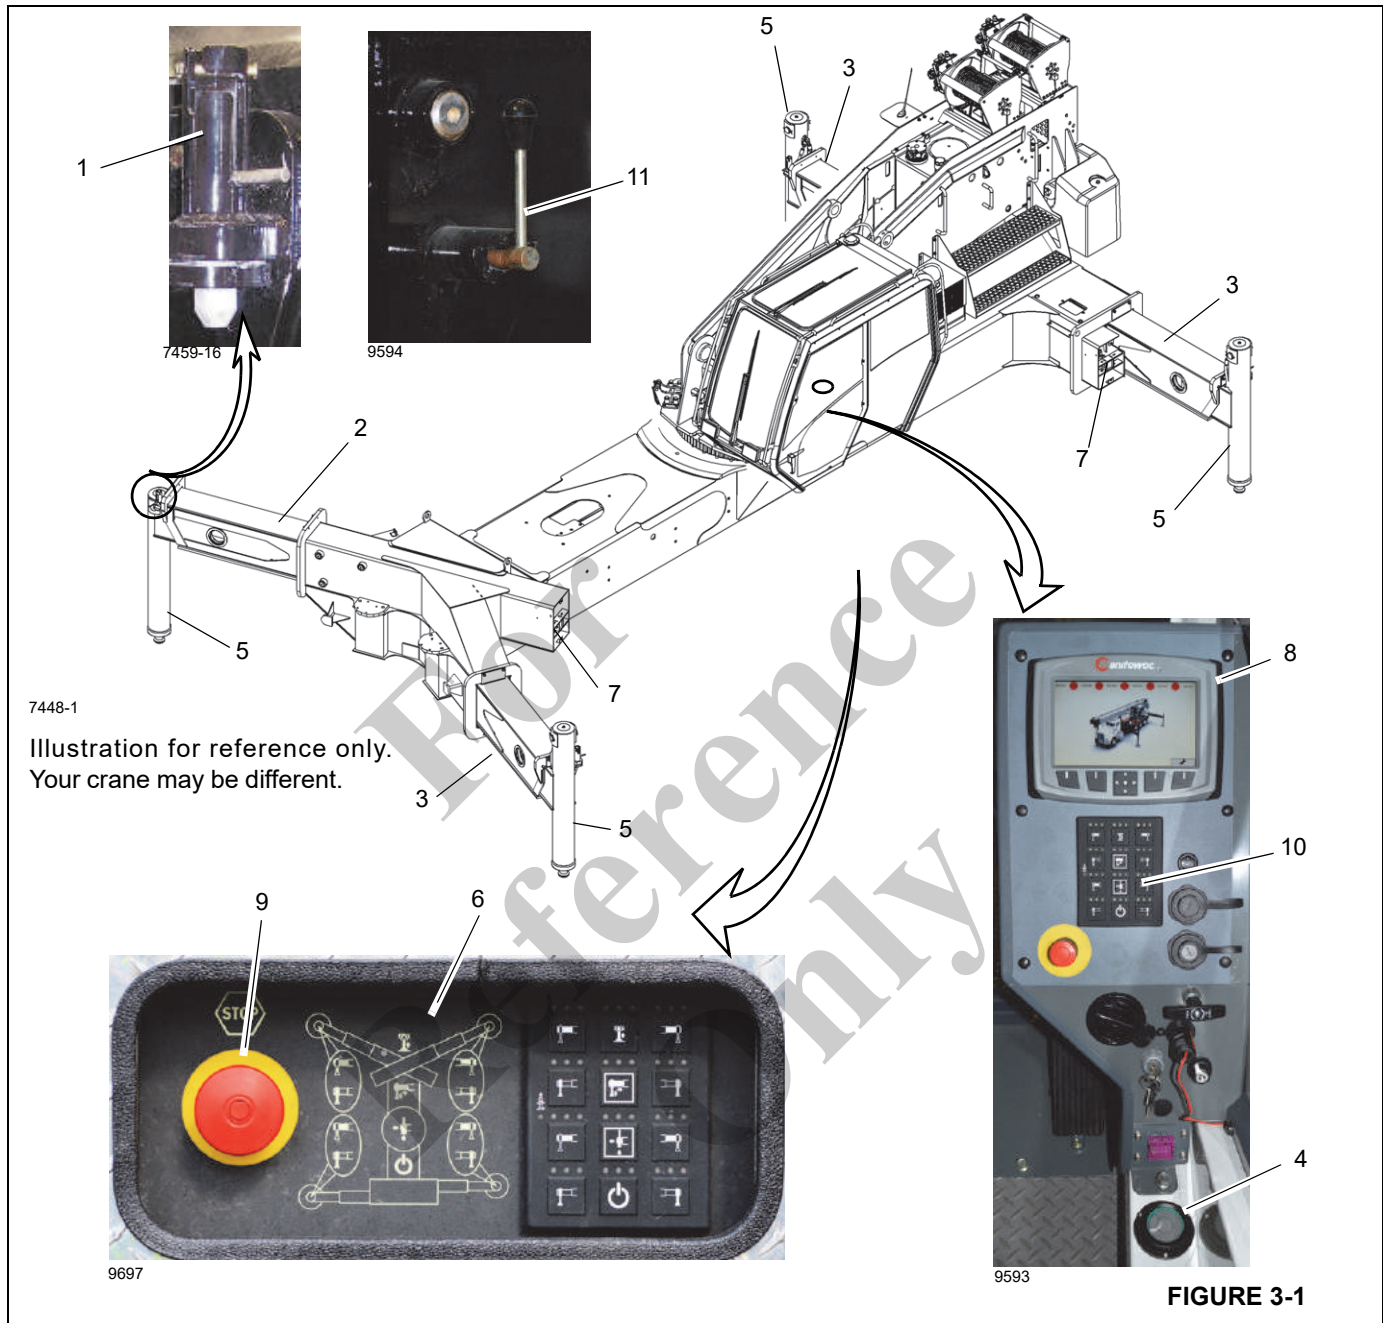
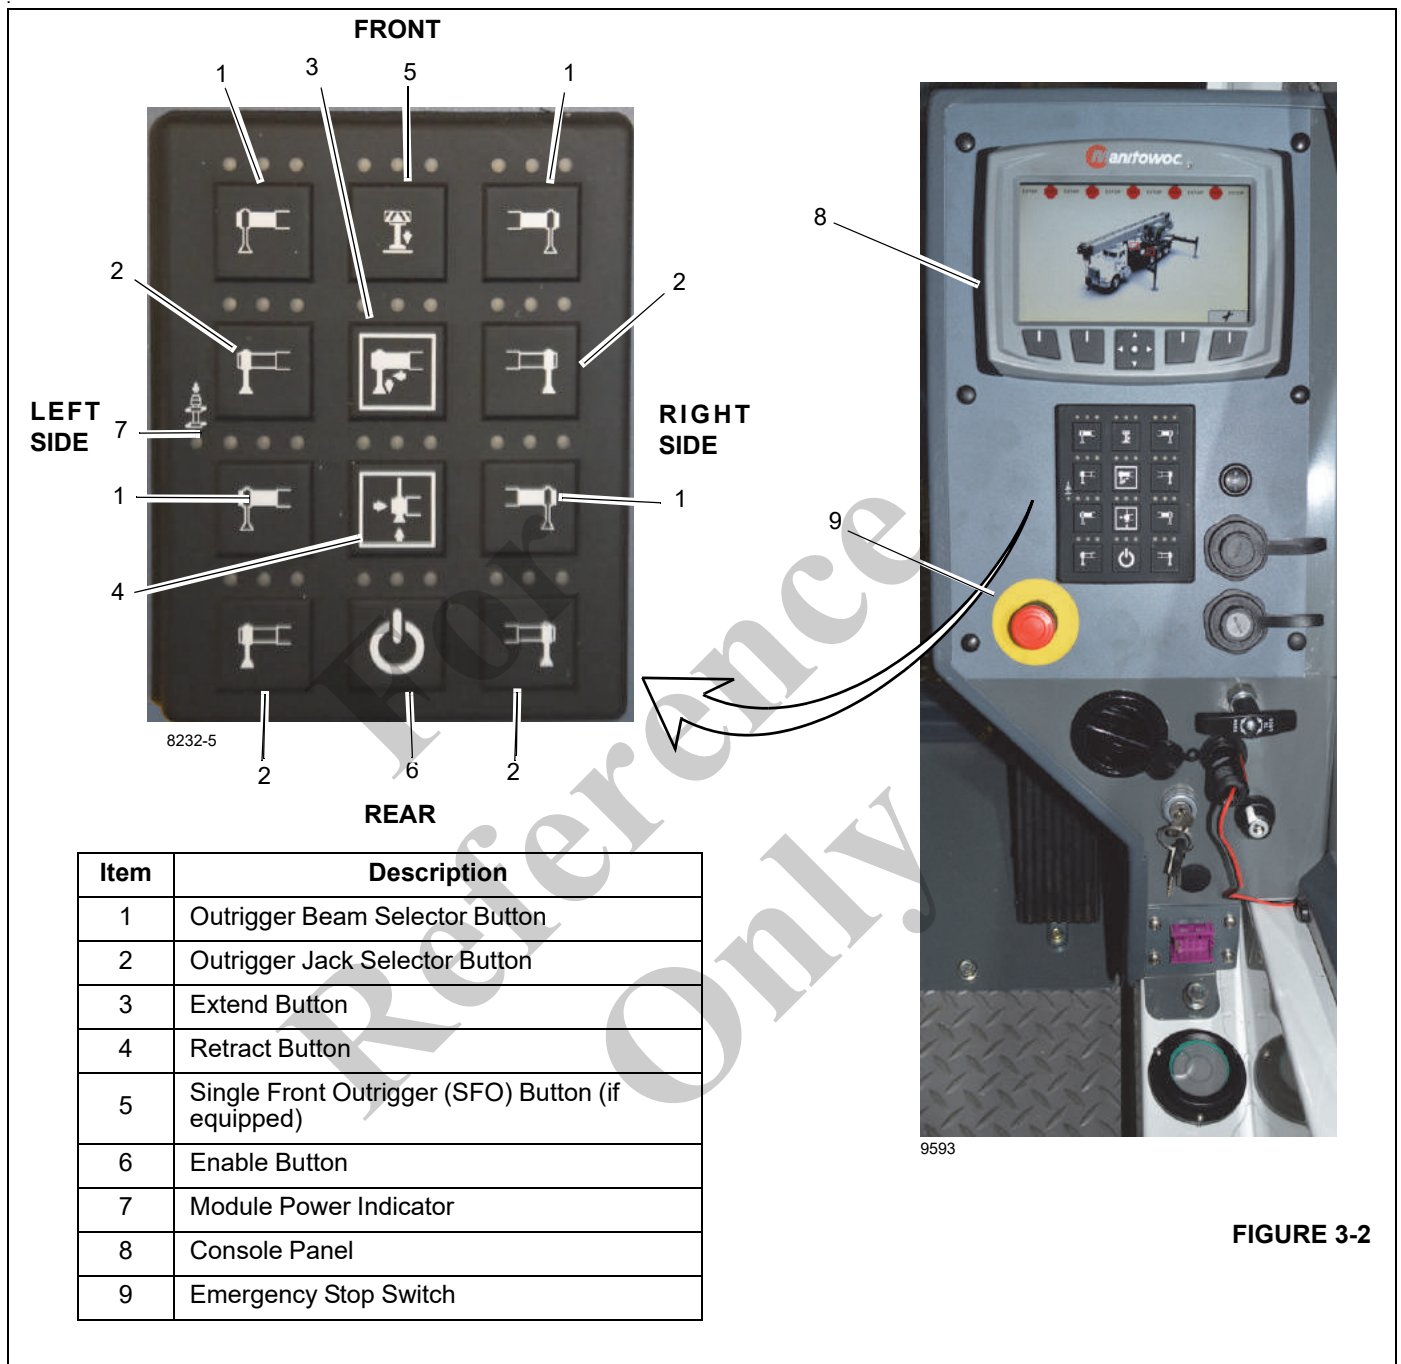
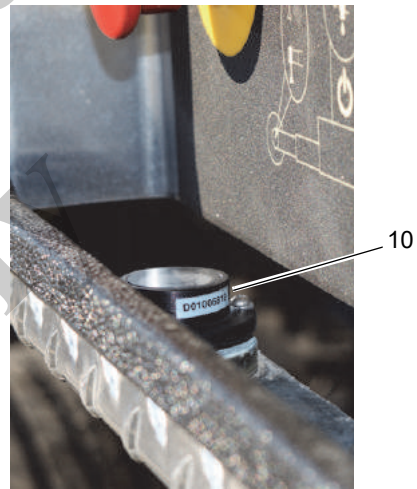

FIGURE 3-1
FIGURE 3-2
FIGURE 3-3
- The lower ground level outrigger panel Emergency Stop (ESTOP) switches (9, Figure 3-1) must be released.
- The Crane Cab ESTOP switch (9, Figure 3-2) must be released.
The outriggers can be operated from three locations, including the keypad controller located on the (Figure 3-1) crane cab console and two ground station control keypads (Figure 3-2) located on the left and right sides of the carrier frame. The cab outrigger controller contains the controls for extending and retracting the outrigger beams, for raising and lowering the outrigger stabilizer (jack) cylinders and for raising and lowering the single front outrigger (SFO), if equipped. The right (passenger) side ground station controls all vertical outrigger cylinders and the SFO (if equipped), but only the horizontal beams on the right (passenger) side of the crane. The left (driver) side ground station controls all vertical outrigger cylinders and the SFO (if equipped), but only the horizontal beams on the left (driver) side of the crane.
The outrigger midspan selector pin (1, Figure 3-1) can be used to extend the outrigger to 50% of its length. On the NTC60L only, the outrigger 75% selector pin (11) can be used to extend the outrigger to 75% of its length. For more information about deploying the outriggers, see "Outrigger Setup" on page 4-1.
The cab outrigger control panel (Figure 3-2) is located on the superstructure cab front console panel and is used to control the outriggers from inside the cab. The control panel contains a touch pad with control buttons and indicators for extending and retracting the outrigger beams, raising and lowering the outrigger jack cylinders and raising and lowering the single front outrigger (SFO), if equipped. If not equipped with an SFO, the SFO LED indicators above the SFO button illuminate red. The crane cab control station contains a level indicator and an emergency stop switch. All
The ground station control panels are located on the left and right sides of the carrier decking (Figure 3-1). Each control station has control switches for extending and retracting the outrigger beams, for raising and lowering the outrigger jack cylinders and for raising and lowering the single front outrigger (SFO), if equipped. Each station contains a level indicator and an emergency stop switch.
There are four outrigger jack selector buttons located on each outrigger control panel (Figure 3-1 and Figure 3-3).
control panel (Figure 3-3). The enable button activates the selected functions.
The enable button is located on cab outrigger control panel (Figure 3-2) and is used in conjunction with Pre-selection of outrigger selector switches control the outrigger functions.
The extend button is located on the outrigger control panel (Figure 3-2) and is used in conjunction with the enable buttons to control both the outrigger beams or the jacks functions.
The retract button is located on the outrigger control panel (Figure 3-2) and is used in conjunction with the enable buttons to control both the outrigger beams or the jacks functions.
LED indicators display the status of the control button being selected (Figure 3-2) on the cab outrigger control panel. A LED will illuminate for 5 seconds after a button has been selected.
The module power indicator is located on cab outrigger control panel and indicates the outrigger control station (Figure 3-2) is activated when a green LED illuminates. The control station cannot be activated if the crane is performing another function. (For example: operating the boom.)
The outrigger beam selector buttons (Figure 3-2 and Figure 3-3) are used to operate the front or rear outrigger beams. Both sides can be operated from the cab outrigger control panel.
The ground control outrigger beam selector buttons (Figure 3-1 and Figure 3-3) are used to operate the front or rear outrigger beam only on the side of the crane the ground control is located.
Use the outrigger jack selector buttons (Figure 3-1 and Figure 3-3) to indicate which jack you desire to operate.
The Single Front Outrigger (SFO) button is located on the outrigger control panel (if equipped) for the cab outrigger controls (Figure 3-2) and ground outrigger controls (Figure 3-1 and Figure 3-3). The SFO button is used to lower and raise the optional center front stabilizer. To operate the SFO, press the SFO button to activate and then press extend/retract button. The SFO automatically retracts if any of the other jacks are adjusted and must be reset if lifting is to be continued. If not equipped with an SFO, the red LED is lit.
There is an emergency stop switch (Figure 3-2 and Figure 3-3) located at each outrigger control on each side of the carrier (Figure 3-3) and inside the cab on the front console (Figure 3-2). Pressing an emergency stop switch shuts down the engine.
The following paragraphs describe the outrigger controls and indicators (Figure 3-3) found on the ground station outrigger control panels.
There is one outrigger control panel on each side of the machine fender decking, as shown in Figure 3-3. The following details apply to both control panels as indicated.
The outrigger beam selector button (1, Figure 3-3) is used to operate the front or rear outrigger beam on the same side of the crane the ground control is located.
The extend and retract buttons (3, 4, Figure 3-3) operate both the outrigger beams or the jacks.
The single front outrigger (SFO) button (5, Figure 3-3) is located in the center of the top row of buttons of the ground station outrigger control panel. It must be used with the extend/retract button to control the operation of the SFO. The SFO retracts automatically when any of the other four jacks are retracted; therefore, it must be reset if lifting is to be continued.
Use the jack selector button (2, Figure 3-3) to indicate which jack you desire to operate.
There is an emergency stop switch (9, Figure 3-3) on the outrigger controls on each side of the carrier. Pressing either switch shuts down the engine.